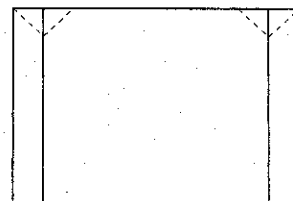

Fig. 5
- Adjust the UPPER CORNER CORRECTION to obtain condition as in (fig. 5).